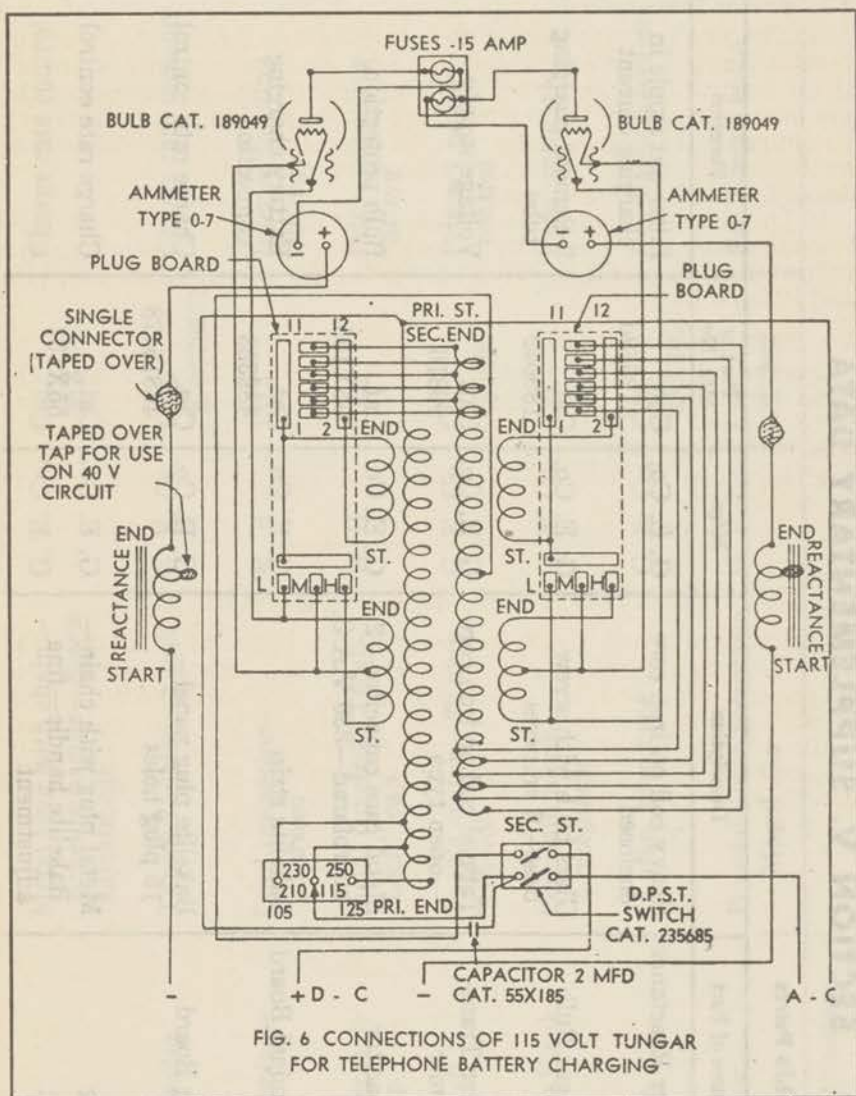

Figure 4—Rectifier RA-36-(*) circuit diagram
b. The power transformer primary winding is provided with taps to compensate for fluctuations in a-c line voltage. These taps are indicated on Figure 4 showing proper tap for operation on 105, 115, and 125 volt lines.